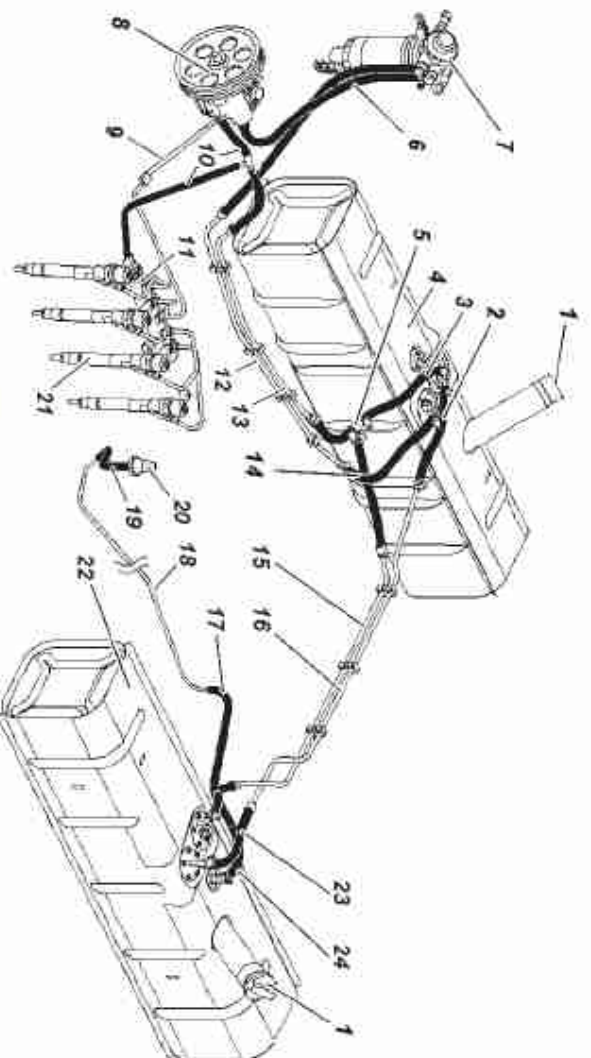

Fig. 9.17. The engine fuel system pattern
**Fuel tanks 4, 22 (Fig. 9.17).** Maintenance of the fuel tanks includes periodic flushing of the fuel level indicator inlet tube filter (right-side and left-side tanks) and flushing of the tanks themselves.